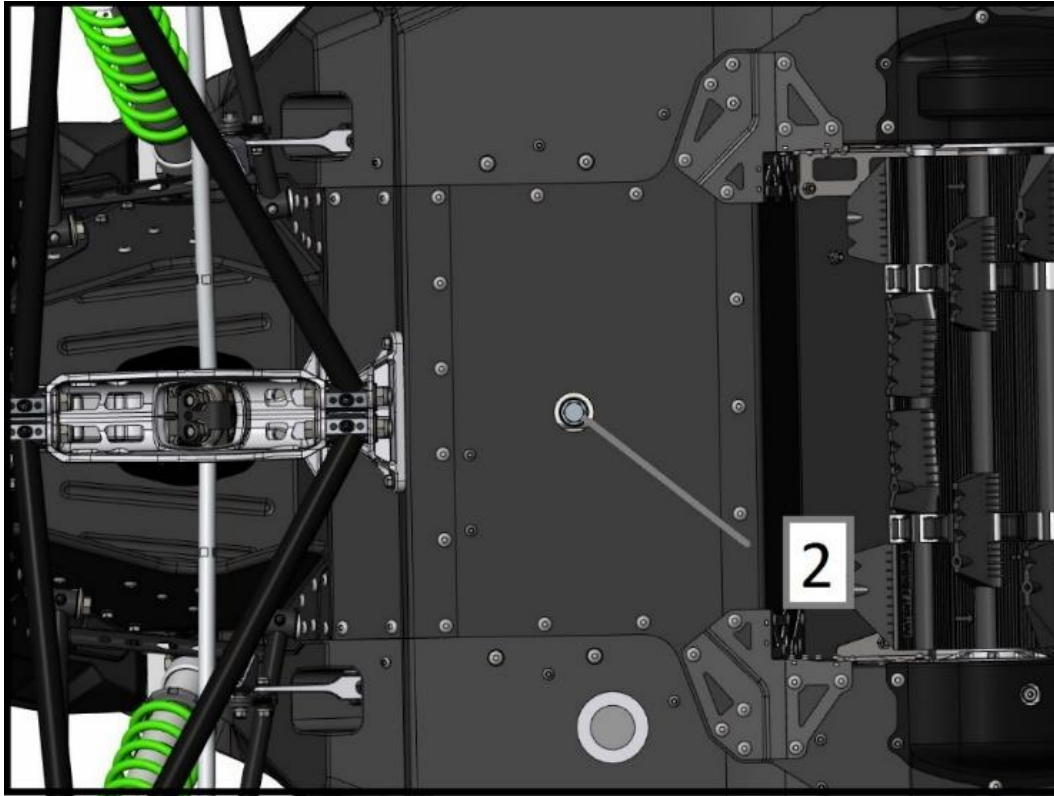

Fig. 10
6. Unscrew the oil drain plug (position 2, figure 10) at the 17 mm end, unscrew the oil dipstick and wait for the oil to drain completely.